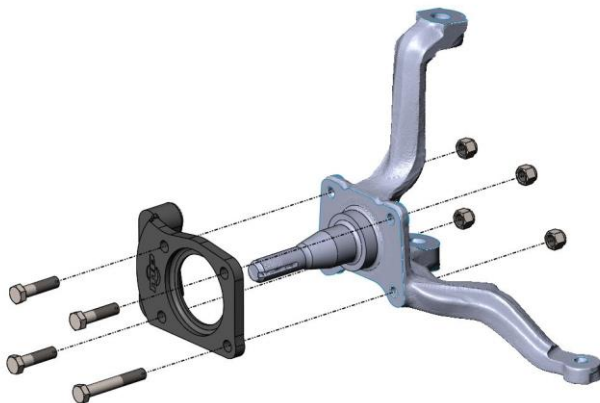

Figure 1a – Caliper Bracket Installation (Front)
3. Install the billet aluminum caliper mounting bracket onto the spindle. To install, use the provided (3) 3/8"-24 x 1.500" Grade 8 bolts and (1) 3/8"-24 X 2.500" Grade 8 bolt along with (4) 3/8"-24 Nyloc lock nuts. The longer of the bolts installs in the bottom hole closest to the steer arm. See Figures 1a and 1b below for reference. Torque the bolts to 45 ft/lbs.